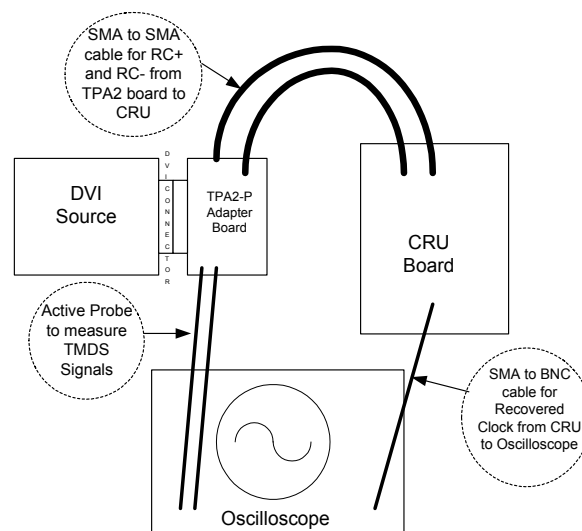

Figure 5. Setup Block Diagram for Measurement at TP2
- Attach the SMA-to-SMA cable from the RC+ and RC- from TPA2 Plug board to the respective CRU SMA input headers. Once completed the setup should look like the illustration in Figure 5.